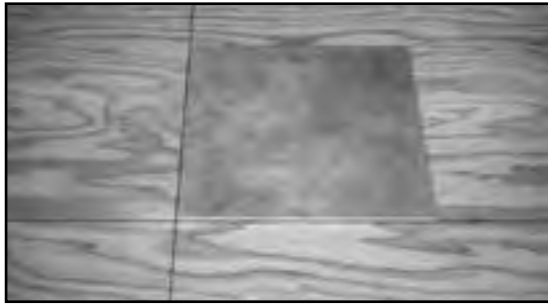

Fig. 10 - Positioning tiles.
- Carefully position the first tile into the adhesive at the intersection of the chalk lines (Fig. 10). The tile will bond instantly on contact so it must be positioned accurately without sliding it. Press the tile firmly into the adhesive. Follow the procedures below for grouted and ungrouted floors.